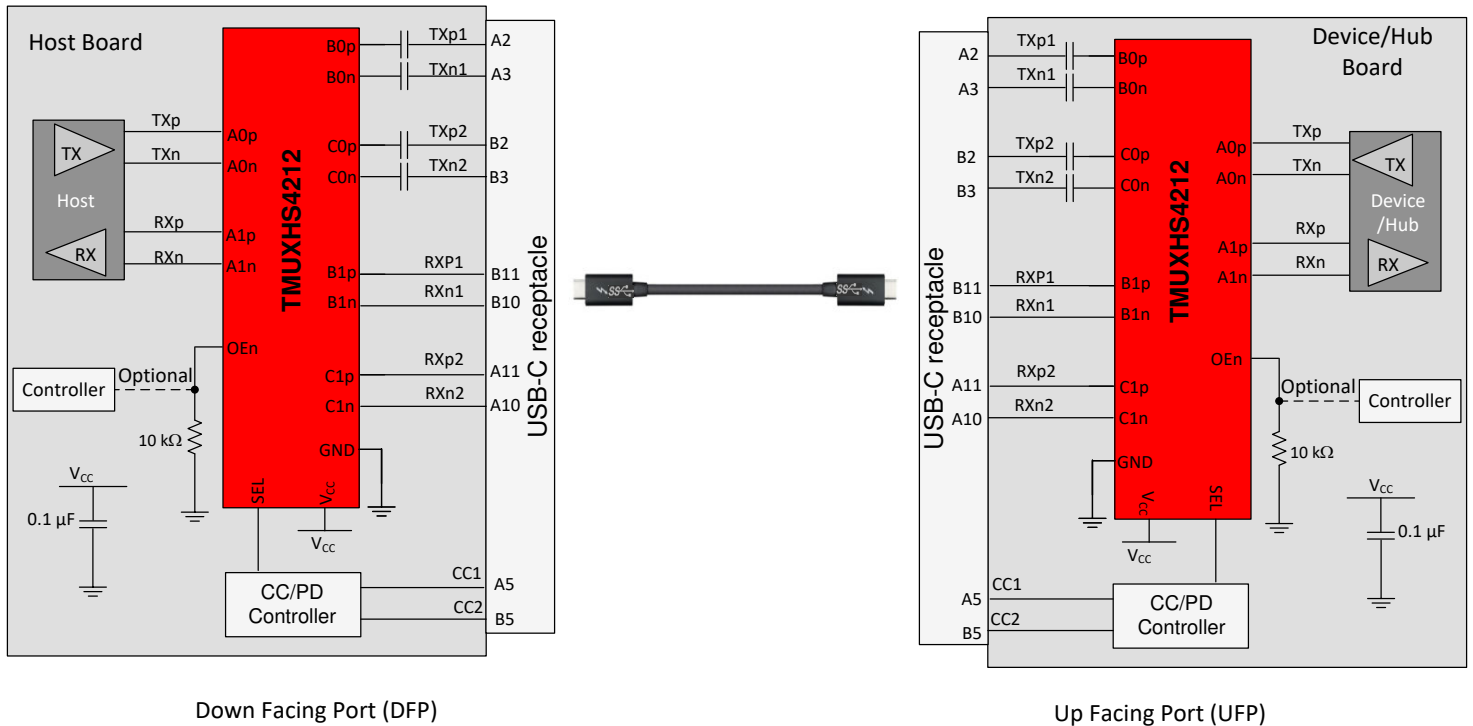

图 9-2. USB 3.2 Implementation for USB Type-C Connector
The TMUXHS4212 can be used in USB Type-C implementation to mux USB 3.2 superspeed signals (TX1 and RX1 pairs versus TX2 and RX2 pairs) to accommodate plug flips. In typical use cases, the mux selection is done by a USB Type-C Channel Configuration (CC) or Power Delivery (PD) controller. The device can be used on a USB Type-C DFP, UFP, or DRP port. 图 9-2 shows two USB Type-C connector applications with both a host and device side. The cable between the two connectors swivels the pairs to properly route the signals to the correct pin. The other applications are more generic because different connectors can be used.
$R_{BIAS}$ (图 9-2) when needed	1 k $\Omega$ to 100 k $\Omega$